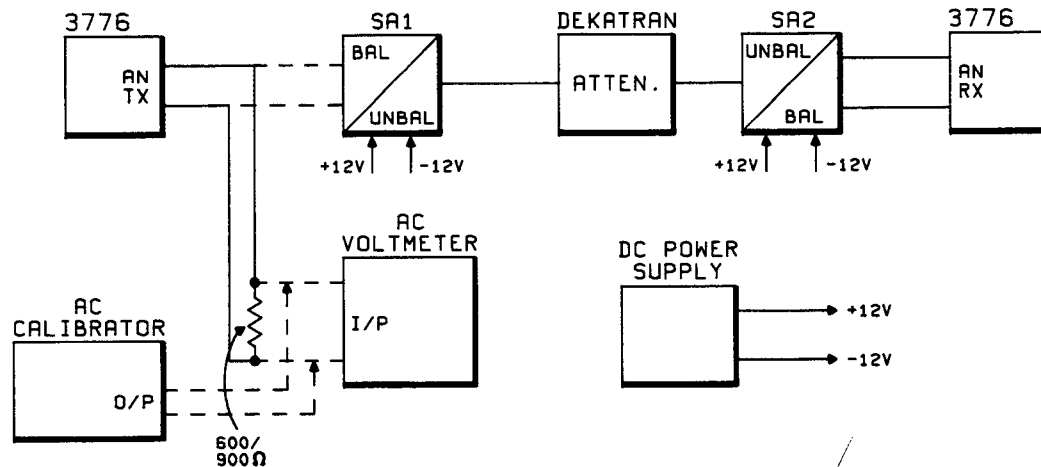

Figure 4-18 Analog Transmitter Levels and Linearity Test Set-up
3. Connect the equipment as shown in Figure 4-18, with the Analog Transmitter connected to the 600 Ohm load.